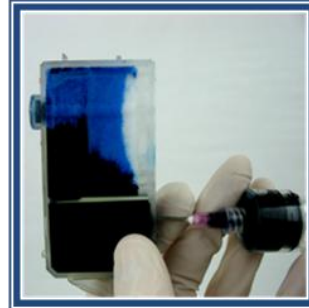

Figure 8
9. Rotate the cartridge 90° and continue to fill slowly so the ink begins to fill into the sponge. Figure 8